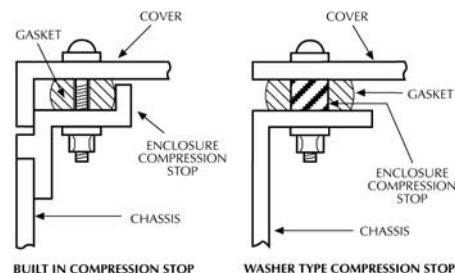

FIGURE 15
a. Environmental Seals The EMI gasket is often called upon to function as an environmental seal to provide protection from dust, moisture and vapors. Therefore, selection of the sealing elastomer is as important as the EMI gasket. To seal against dust and moisture, flat or strip EMI gaskets joined to a sponge or solid elastomer are adequate. Sponge elastomers, characterized by compressibility, are ideally suited for use in sheet metal enclosures having uneven joints. Required closure pressures are generally low, between 5 and 15 psi. To avoid overcompressing sponge elastomers, compression stops are recommended. These stops can be designed into the enclosure or embedded in the elastomer. Both techniques are illustrated in Figure 15. Tecknit offers a wide variety of sponge elastomer gaskets, as well as other types of low closure force gaskets.